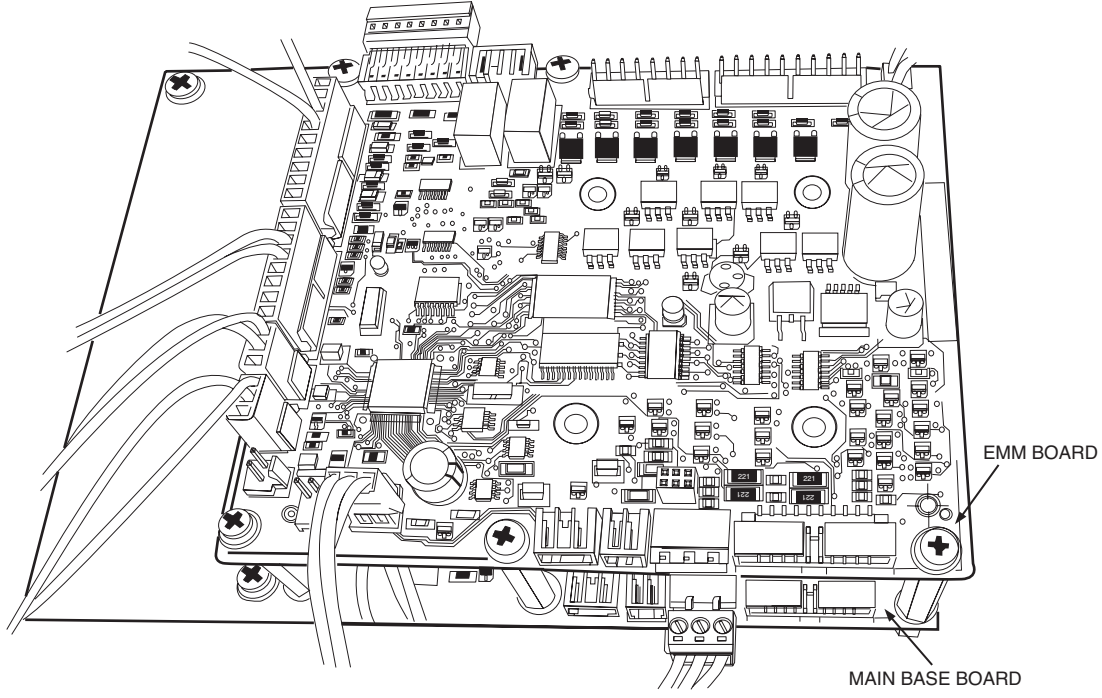

Fig. 2 — EMM Mounted Over Main Base Board
4. Thread the spacers into the six mounting locations. Place the EMM board over the spacer holes and insert the screws saved from Step 3. The board should be installed with the power connection plug (J1) facing in the same direction as the main base board (see Fig. 2).